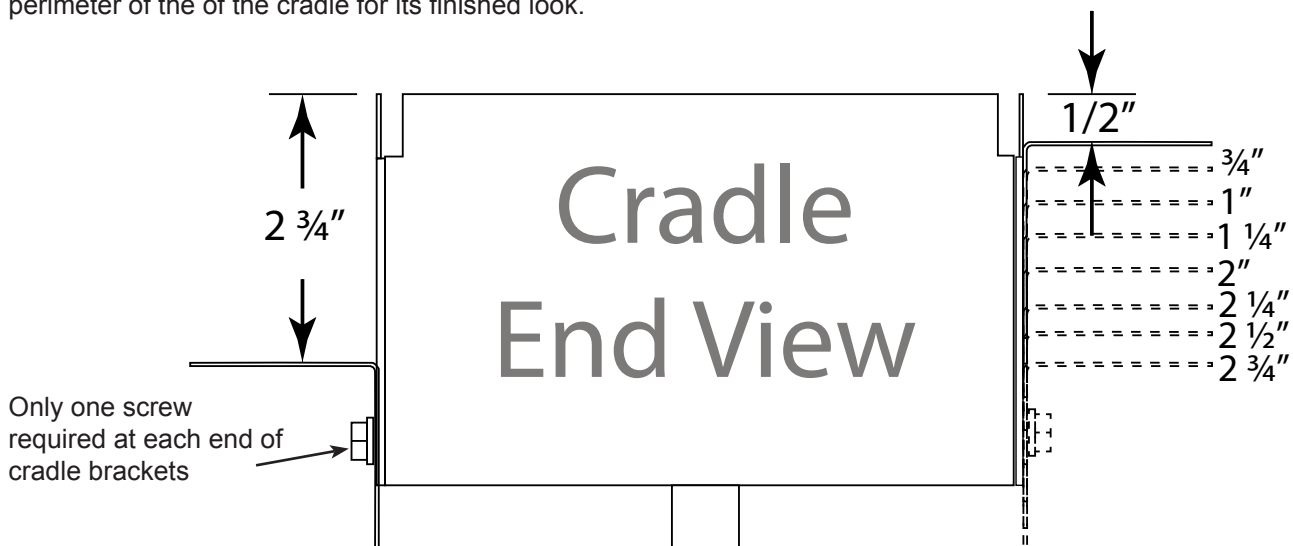

Fig. 4 Cradle bracket depth adjustment.
- 2) Cradle Bracket - These brackets are 23" long with 2" flanges. Each Linear model comes with two (2) cradle brackets that mount on both sides of the fire pit. The 7" frame clearance allows for the screws securing the cradle brackets. Each cradle bracket can be adjusted 1/2" from the top edge of the cradle or lowered to a total of 2 3/4" from the top edge of the cradle. There are 1/4" increments to adjust the depth of the fire pit to fit most finishing materials (See Fig. 4.).